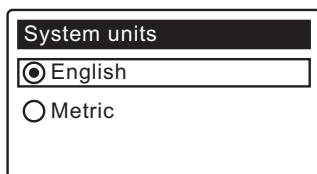

FIG. 16
- 3. SYSTEM UNITS** If the desired system already has a black dot next to it (See Figure 16), go to Step 4. Otherwise, press the DOWN (▼) or UP (▲) buttons to scroll to the desired system, then press the SELECT (○) button to choose it.